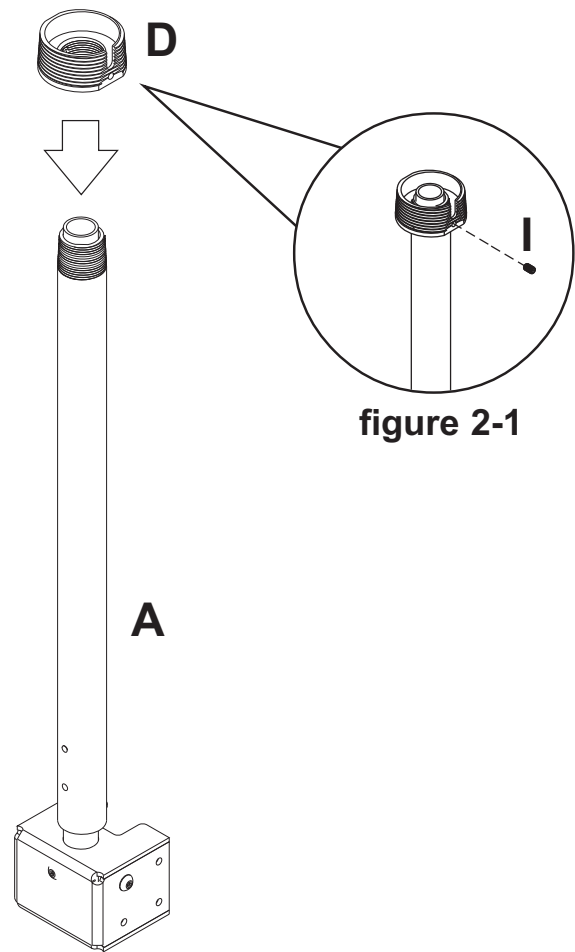

figure 2-1
2 Thread reducer (D) onto tube assembly (A) until tight. Insert set screw (I) into reducer as shown in figure 2-1. Tighten screw using hex wrench (J). **Note:** Set screw (I) is used to jam against the threads of tube assembly to prevent any excess movement.